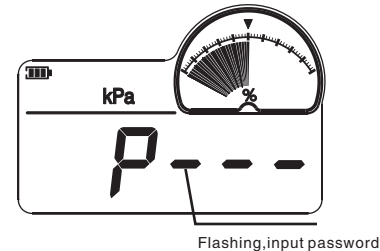

Figure 8-1-1: Enter the password menu
(1) Press and hold the  button enter into the set menu (password), as shown in Figure 8-1-1.
(2) Input password “211” .